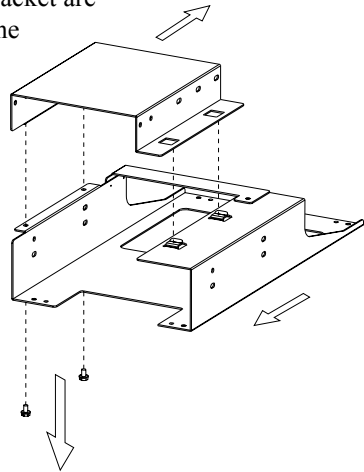

Figure 2.6: Removing the 3.5" disk drive bracket
2. Users can remove the 3.5" disk drive bracket completely from the housing by loosening the two screws and then separating it from the hooks by sliding it backwards. (see *Figure 2.6*)